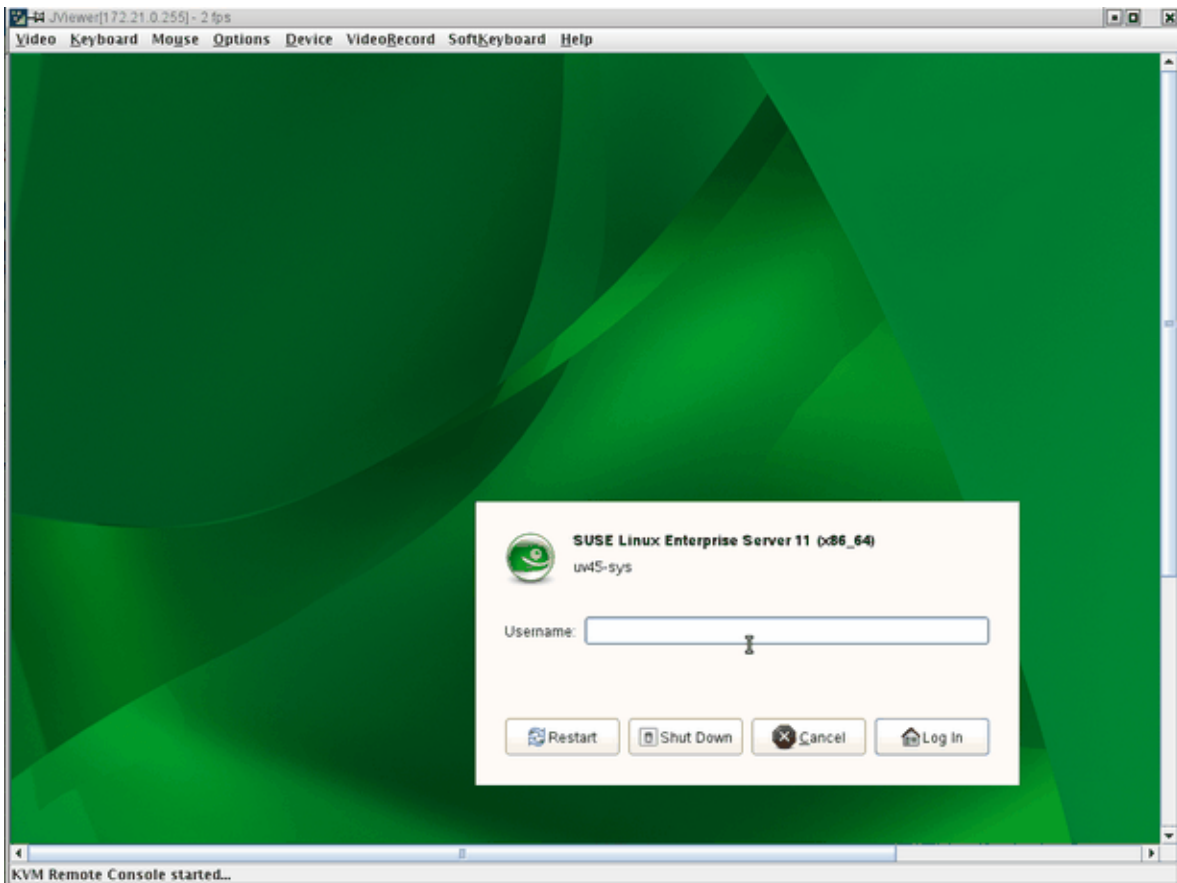

Figure 3-11 SUSE Linux Enterprise Server 11 (x86_64) Login Screen
14. The **SUSE Linux Enterprise Server 11 (x86_64)** login screen appears, as shown in Figure 3-11 on page 53. Log in as root user